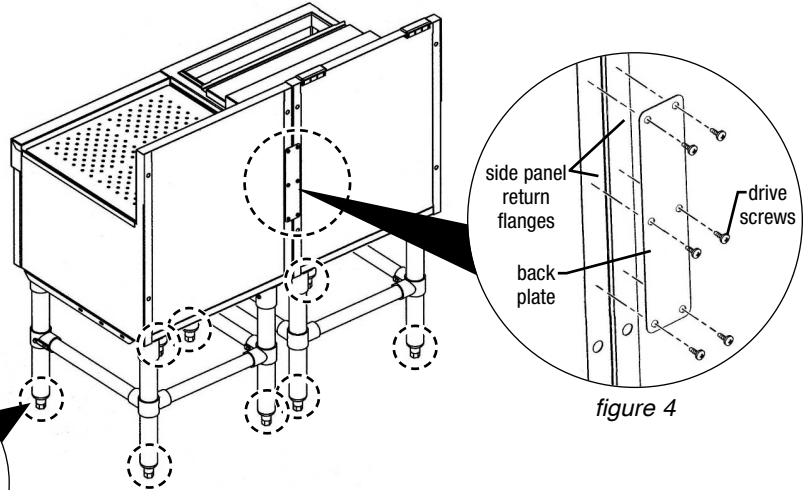

figure 4
- With the drive screws provided, screw the plate and the side panel return flanges together (*figure 4*).